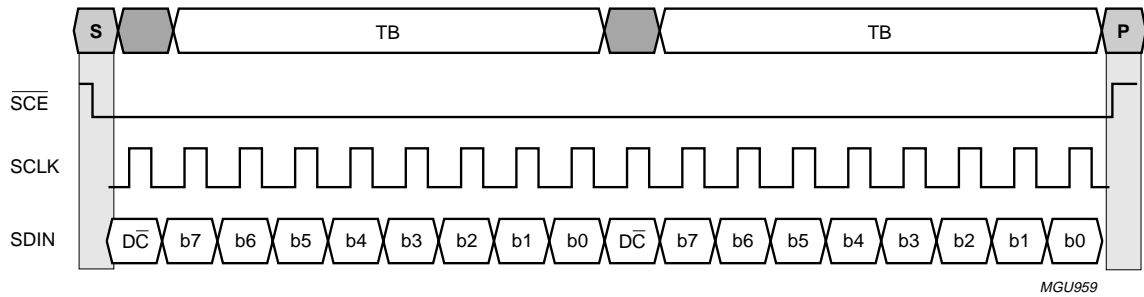

Fig.43 Serial bus protocol, write to register with control bit in transmission (PS[2:0] = XX0).
- If SCE stays LOW after the last bit of a data/command byte, the serial interface will receive the D/C bit of the next byte at the next rising edge of SCLK (see Fig.43).